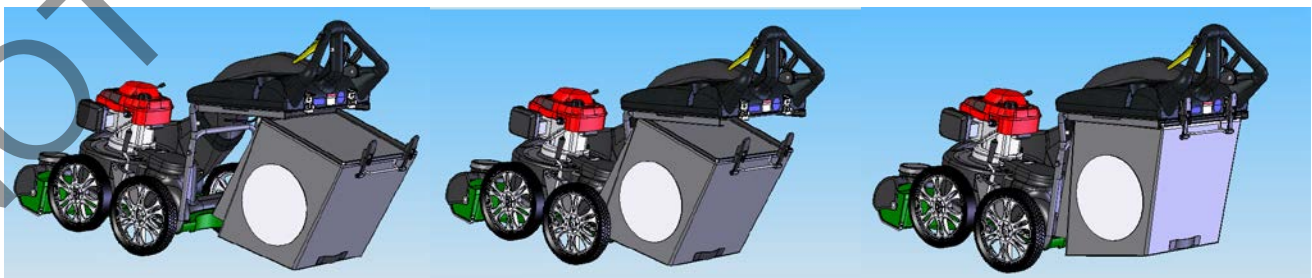

Fig. 7
- Attach the bag. (See Fig. 7)